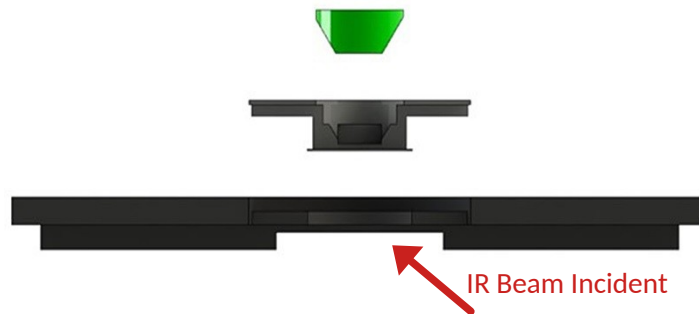

Fig. 4b) Orientation of FAC in crystal holder in top plate.
**IMPORTANT:** When placing the crystal holder with the FAC in the top plate, be sure the FAC is oriented correctly to allow for incident light through the FAC (Fig. 4b).